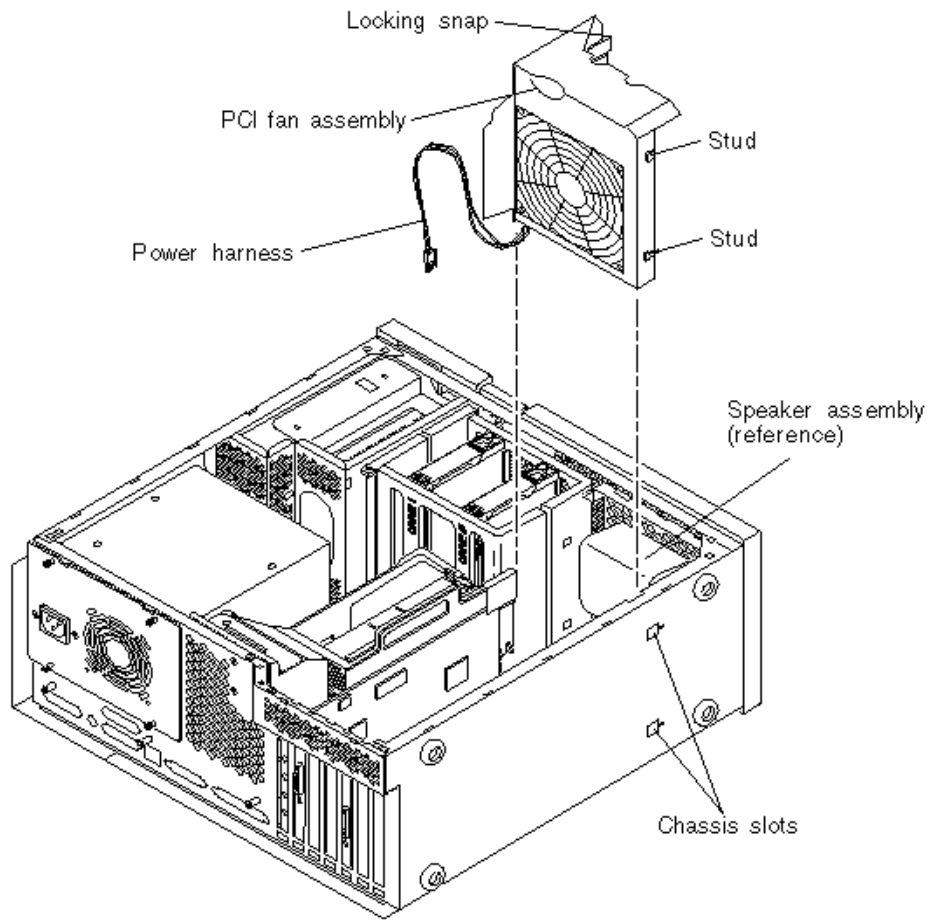

Figure 8-3 Removing and Replacing the PCI Fan Assembly
4. Disconnect the PCI fan assembly as follows (Figure 8-3):
1. **Position the PCI fan over the speaker assembly (Figure 8-3).**